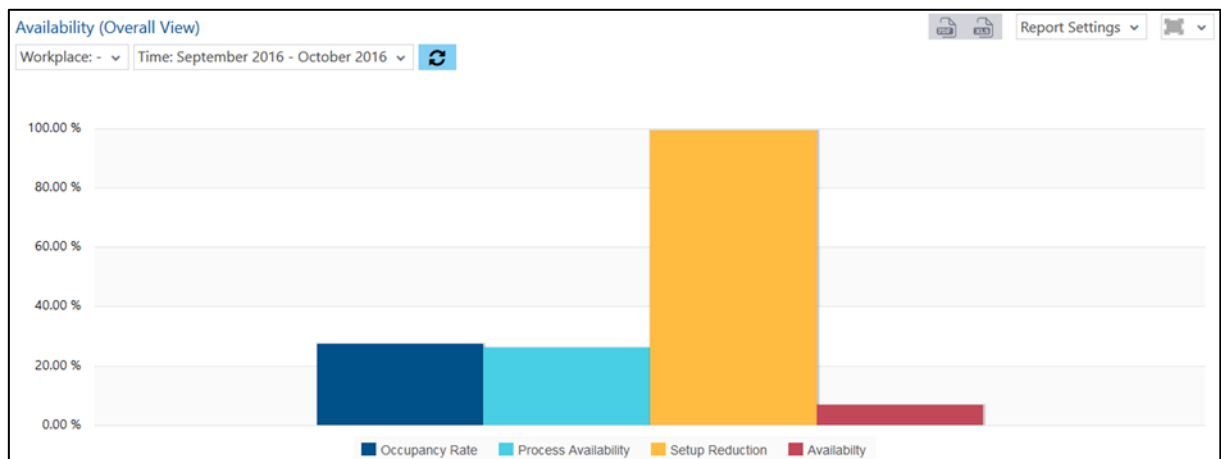

Fig. 53: Availability as bar chart
- Availability as a column chart (fig. 53):